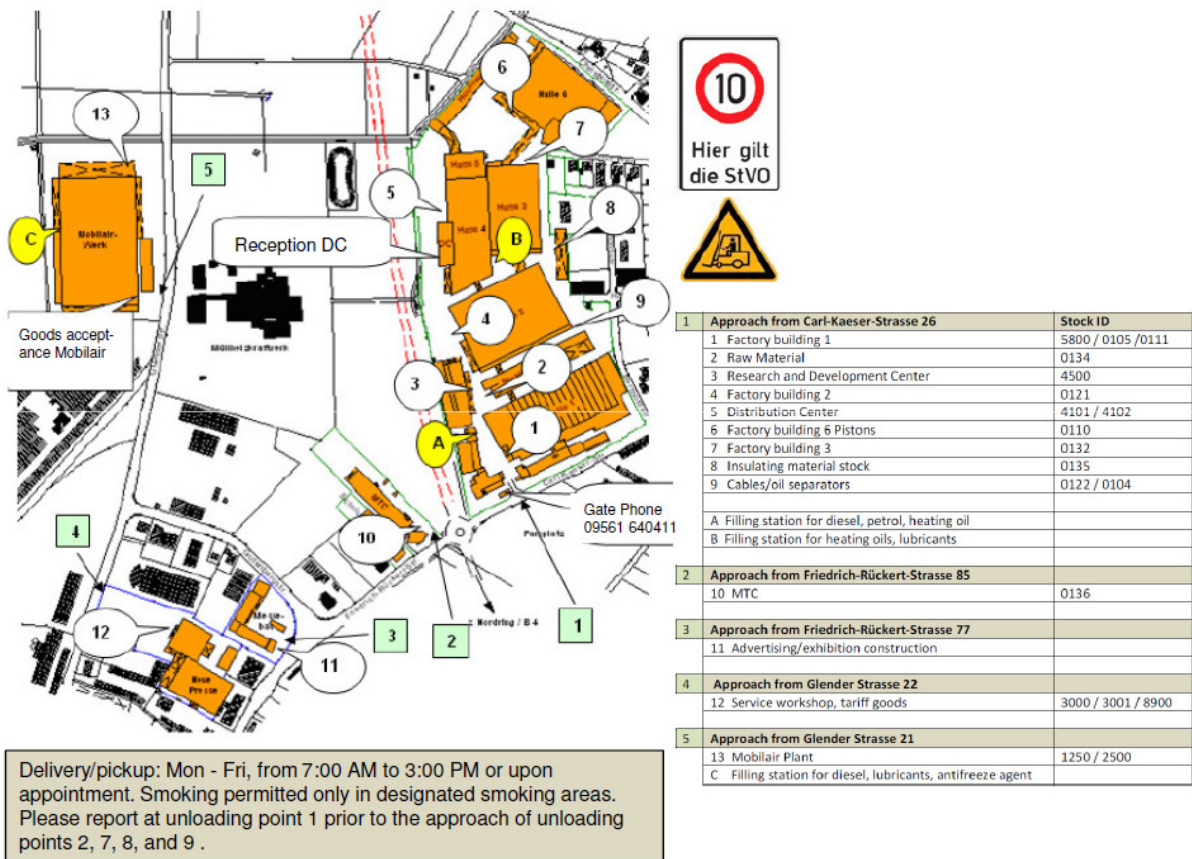

Fig. 4-2 Overview of unloading points at the Coburg site
- Fig. 4-2: Overview of unloading points at the Coburg site**